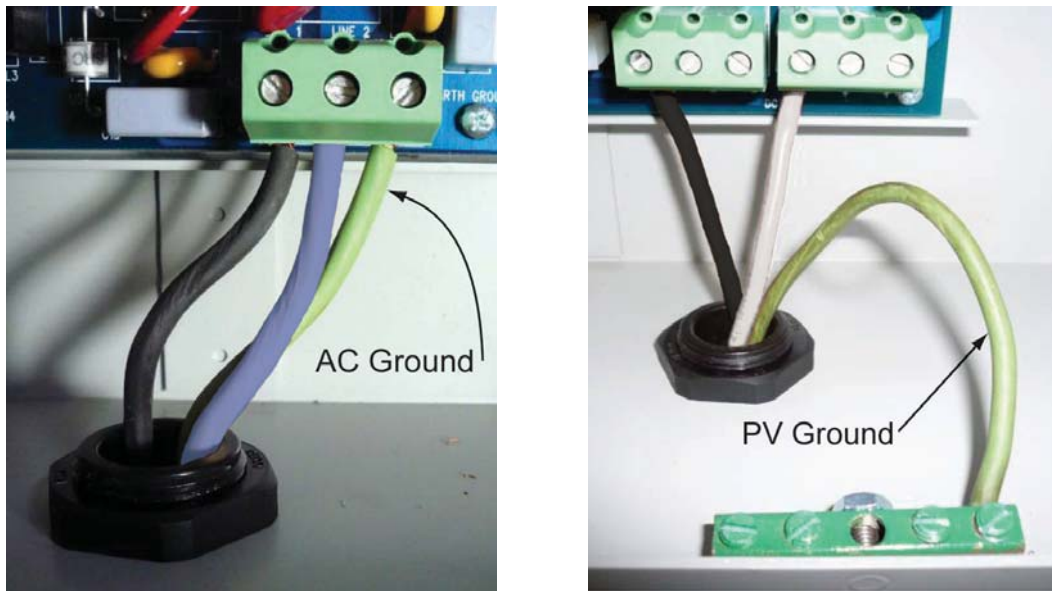

Figure 3-8 AC and PV Grounding
- Do not tie the safety ground to the PV array positive or negative. That would defeat the PV ground fault protection circuit. Refer to Figure 3-8 for additional information.